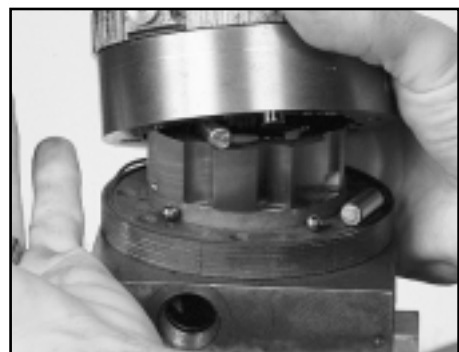

Figure D4
4. Remove the locating ring carefully to prevent rollers from falling or remove rollers with a magnet. SEE FIGURE D4.